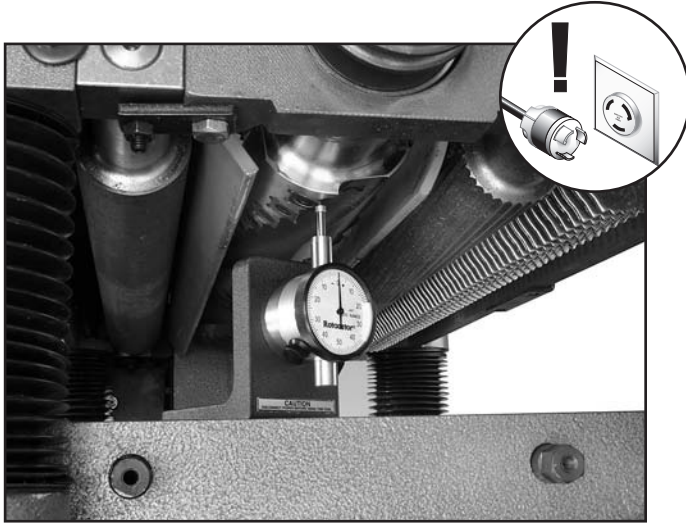

Figure 32. Finding BDC with the Rotacator.
5. Using your Rotacator, find BDC of any carbide insert edge by slowly rocking the cutterhead pulley back and forth, and set the Rotacator dial to zero, as shown in **Figure 32**.